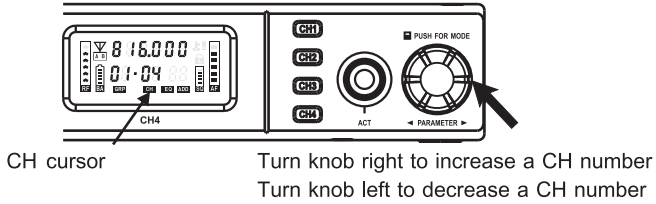

Fig. 15
- (1) Press the rotary button to select parameters. GRP cursor blinks to denote it can be changed readily.
- (2) Turn the knob right to increase or left to decrease a GRP number.
- (3) Press the knob again, GRP number stops blinking and saves the new group number automatically.
(B) CHANNEL Setting. Fig. 15: